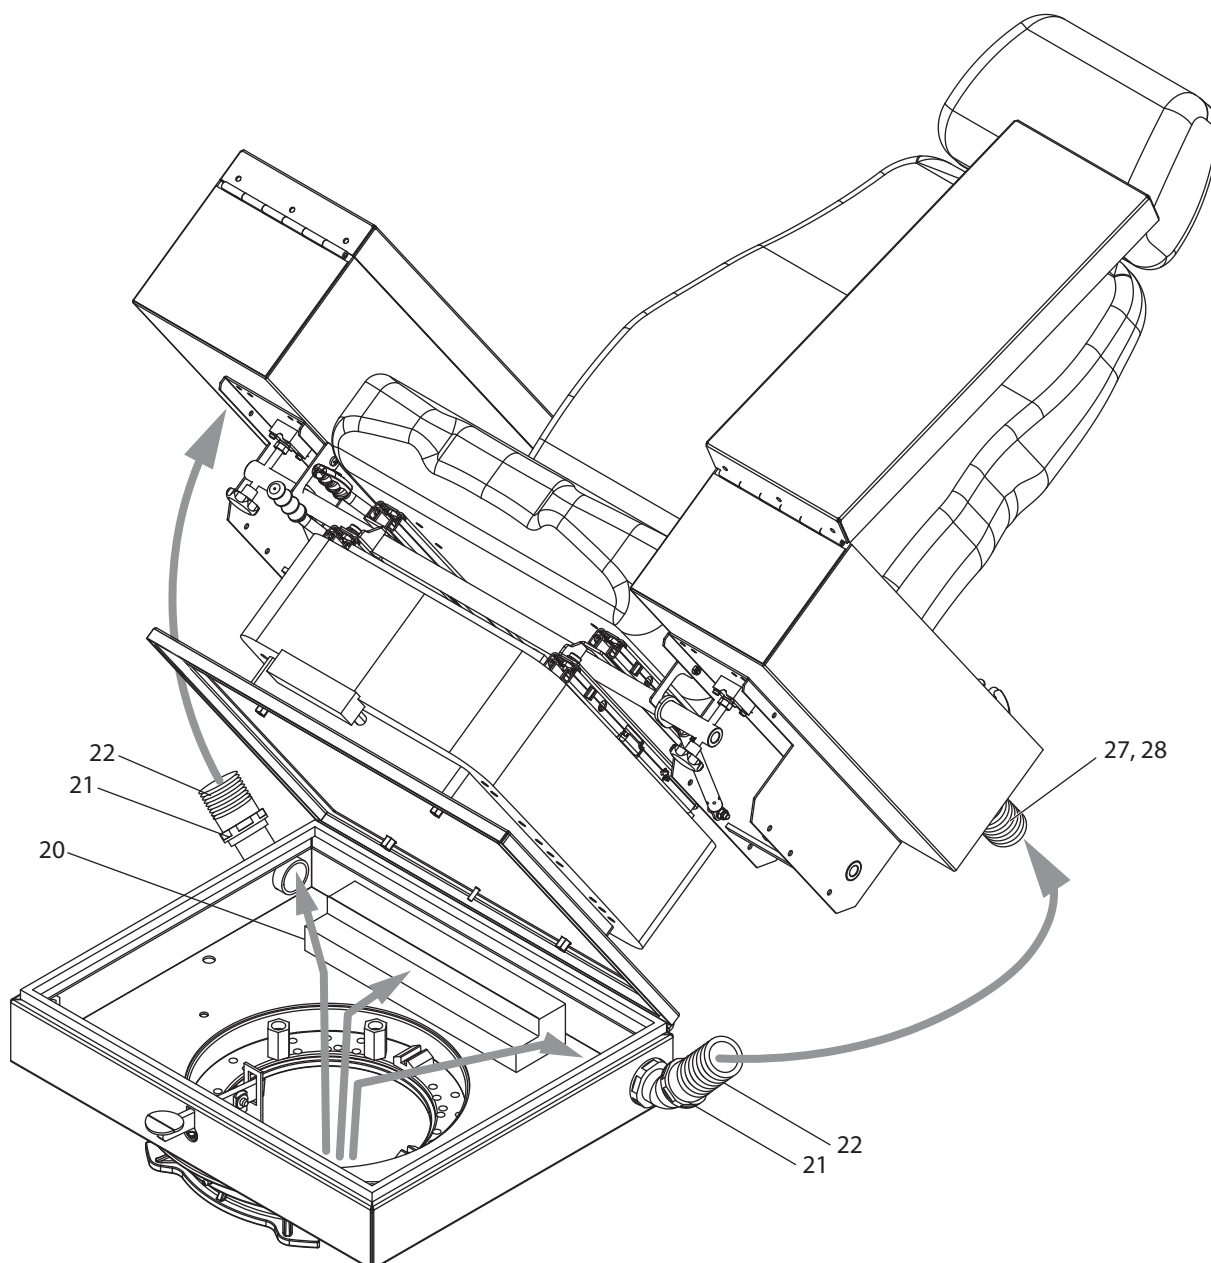

Figure 16. Cable entry
2. Undo the two securing screws (18) on the spacer (4).
3. Tip the control stand in the direction of the hinges (15), make sure that the control stand is secured against tipping back and is placed on a suitable surface.
4. Route the cables from below into the spacer (4) (see Figure 16 „Cable entry“, page 84).
5. Connect the corresponding cables to the terminal block (20) (see Figure 16 „Cable entry“, page 84) as per the related circuit diagrams (see chapter 12. „Reference documents“, page 124).
6. Undo the lock nut (21) on the cable opening (17) and remove the corrugated tube (22) from the cable opening (17) on the spacer, (see Figure 16 „Cable entry“, page 84).
7. Undo the lock nut (28) on the cable opening (27) on the consoles and remove the corrugated tube (22) from the cable opening (27) on the consoles, (see Figure 16 „Cable entry“, page 84).
8. Guide the corresponding cables through the cable opening (17).
9. Pull the cables through the corrugated tube (22) and tighten the lock nut (21) for the cable opening (17) on the spacer and the lock nut (28) for the cable opening (27) on the consoles.
10. Tip the control stand back in the direction of the hinges (15) and tighten the two locking screws (18) in the spacer (4).
4. Undo the lock nut **(21)** on the cable opening **(17)** and remove the corrugated tube **(22)** from the cable opening **(17)** on the spacer, (see Figure 16 „Cable entry“, page 84).
5. Undo the lock nut (28) on the cable opening (27) and remove the corrugated tube (22) from the cable opening (17) on the consoles, (see Figure 16 „Cable entry“, page 84).
6. Guide the corresponding cables through the cable opening (17).
7. Pull the cables through the corrugated tube (22) and tighten the lock nut (21) for the cable opening (17) on the spacer and the lock nut (28) for the cable opening (27) on the consoles.